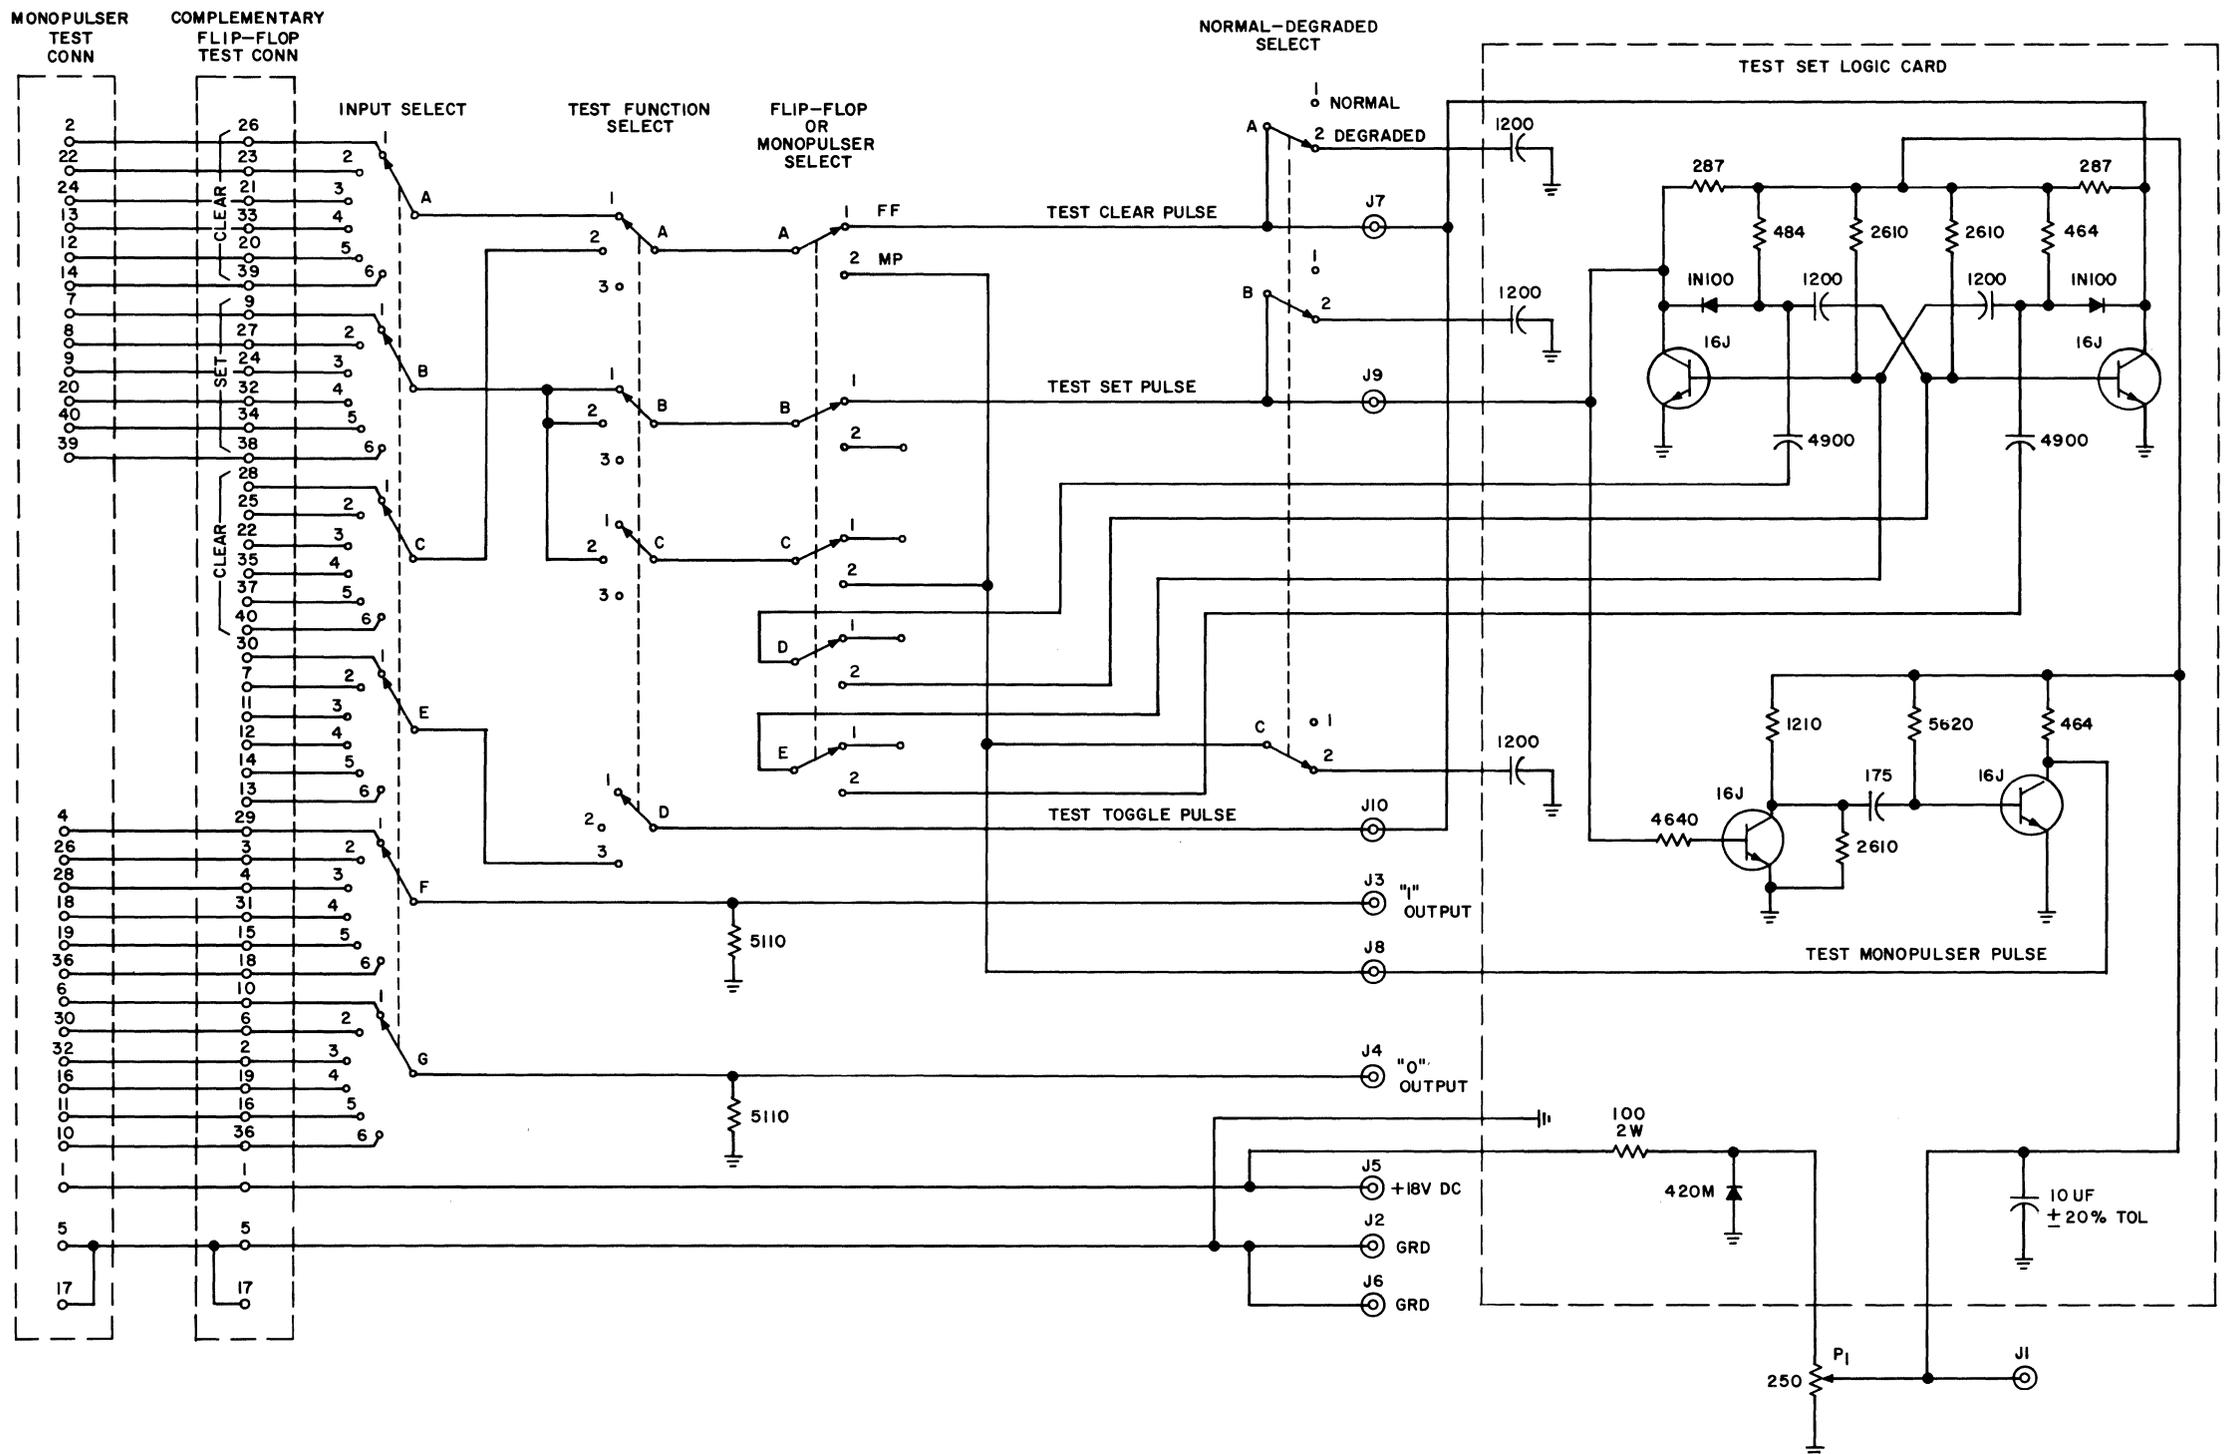

Fig. 6 — Complementary Flip-Flop Test
- 1 — OFF test set such as shown in Fig. 6.